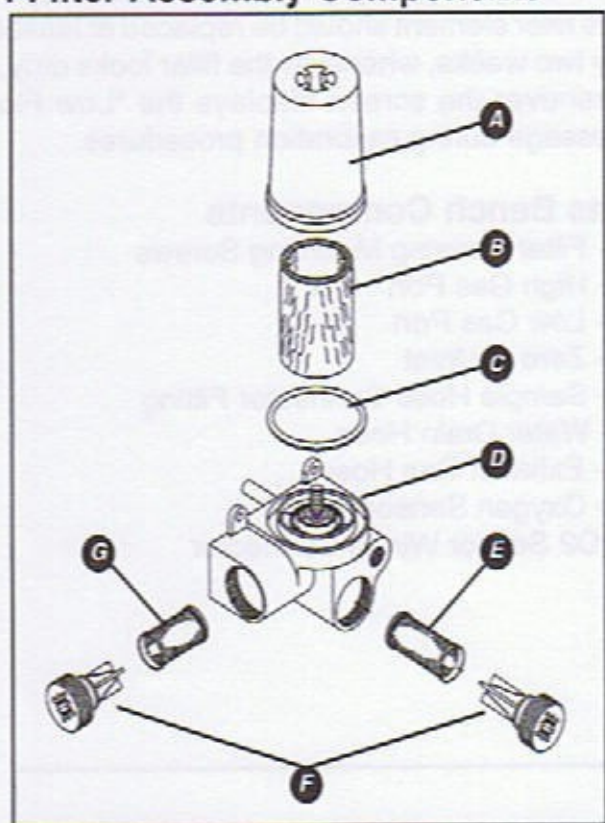

Figure 6-3
2. Insert a 3/8" ratchet drive into the recessed openings provided to remove the filter plugs or the filter bowl from the filter housing (refer to Figure 6-3, items A and F).
4. Discard the secondary filter (see Figure 6-3, item B, the uppermost filter). The secondary filter is not washable.
6. Clean the mesh filters (G) and (E) with warm soapy water, or, for best results, replace the filters.
7. Reassemble the filter housing. Hand tighten the upper bowl (A). Do not use a ratchet.